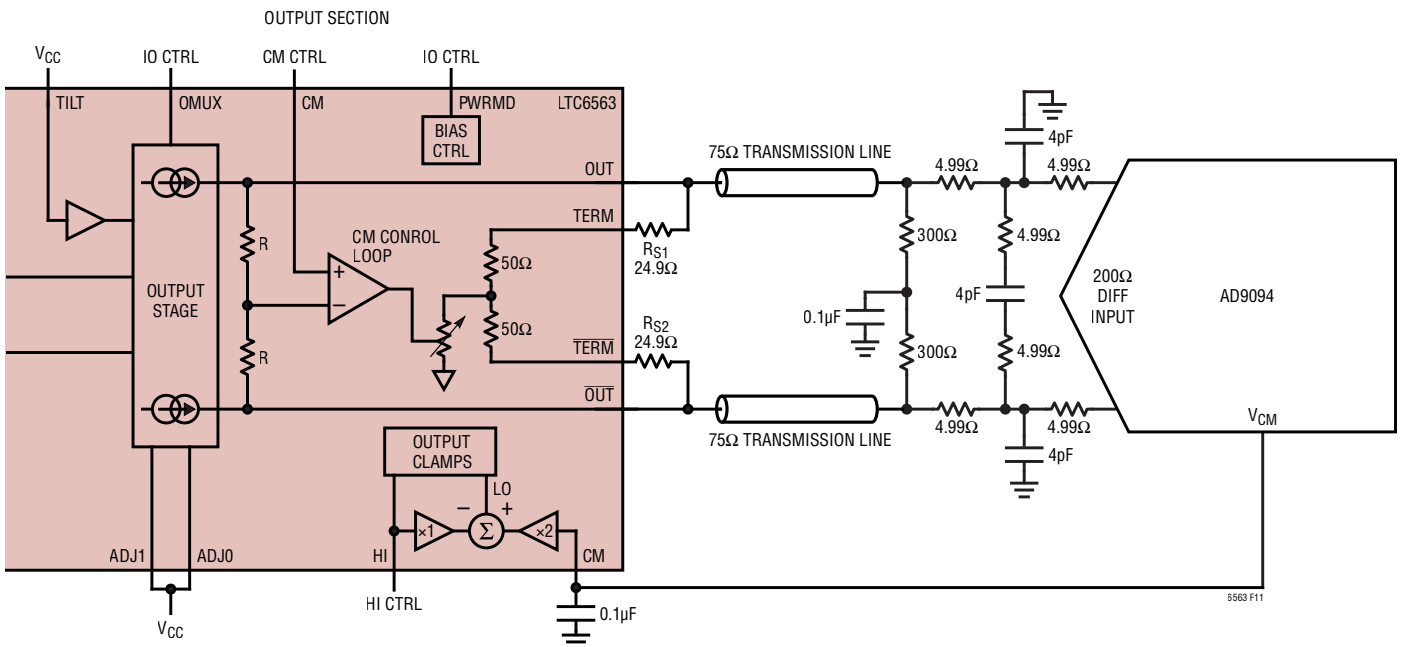
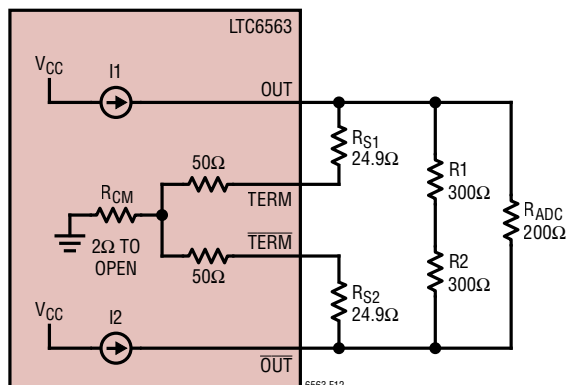

Figure 11. Increasing Diff Load Resistance and Matching to  $75\Omega$
Figure 12. TIA 75Ω Matched Load Equivalent Circuit
Consider the configuration shown in Figure 11 schematic. The output impedance of the LTC6563 is raised to  $75\Omega$  by adding  $24.9\Omega$  resistors in series with the internal  $50\Omega$  TERM resistors. The TIA now presents an output impedance that matches the  $75\Omega$  transmission line as well as the net ADC-side SE impedance. The transmission line ADC-side impedance can be calculated by:
Let's now take a look at the output CM voltage that pertains to the schematic of Figure 11, simplified in Figure 12:
Table 6. CM Minimum Voltage and Other Operating Performance Values for Various ADJ Settings of Figure 11
Table 6 shows the computed minimum CM voltage, TIA gain (RT), and ADC FS diff voltage swing for various ADJ settings applied to the Figure 11 configuration.
Here is a sample calculation of the values in Table 6, related to the Figure 11 schematic, for ADJ 00 as an illustration:
In the Figure 11 schematic and tabulated results in Table 6, the ADJ 11 setting's Min CM voltage is too high to be usable. Thus, the technique of lowering CM voltage (Detailed Example 2) discussed earlier can be employed